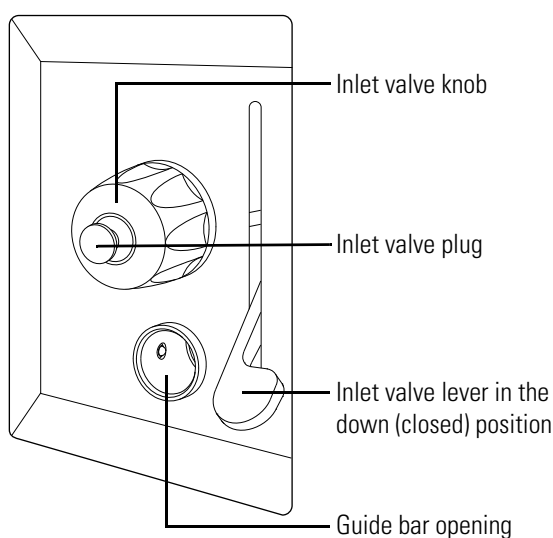

Figure 3-39. Inlet valve components
1. Pull down the inlet valve lever to close the inlet valve. See Figure 3-39.